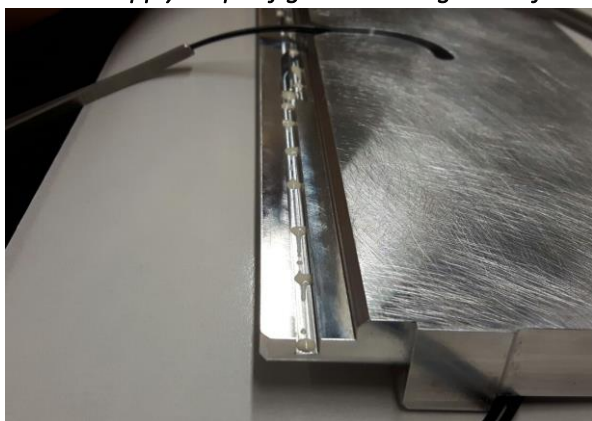

Figure 19 Glue in groove for light bar
3.2.3.3 *Apply drops of glue into the grooves for the light bars as shown in "Figure 19".*